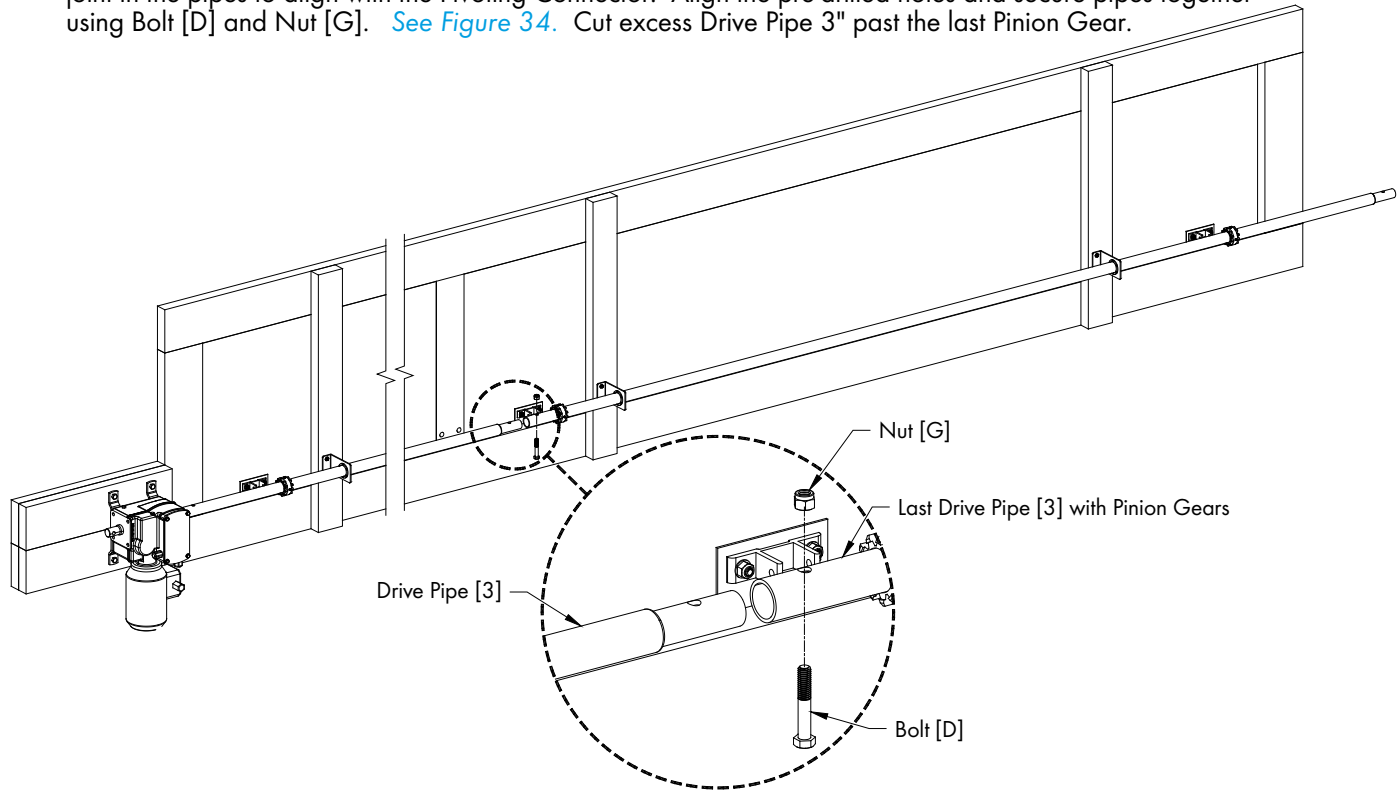

Figure 34
The last Drive Pipe [3] requires (2) Pinion Gears on the Pipe. Slide the Drive Pipe into the Bronze Bushing in last (2) Guide Plates [13], there will be one Pinion Gear lined up with each Pivoting Connector. Slide the opposite end onto the swaged end of the previous pipe. If needed slide one of the Pinion Gears past the joint in the pipes to align with the Pivoting Connector. Align the pre-drilled holes and secure pipes together using Bolt [D] and Nut [G]. See Figure 34. Cut excess Drive Pipe 3" past the last Pinion Gear.